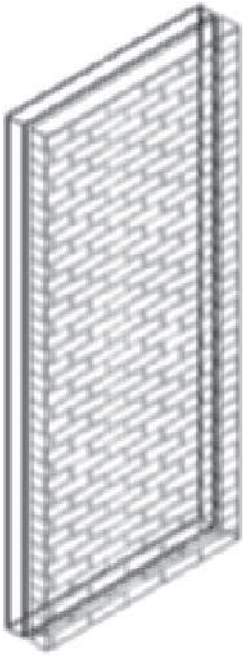

FIGURE 3.39 Materials applied to the Brick component
42. The material is assigned to the Brick component as shown in Figure 3.39. Save and close the drawing.